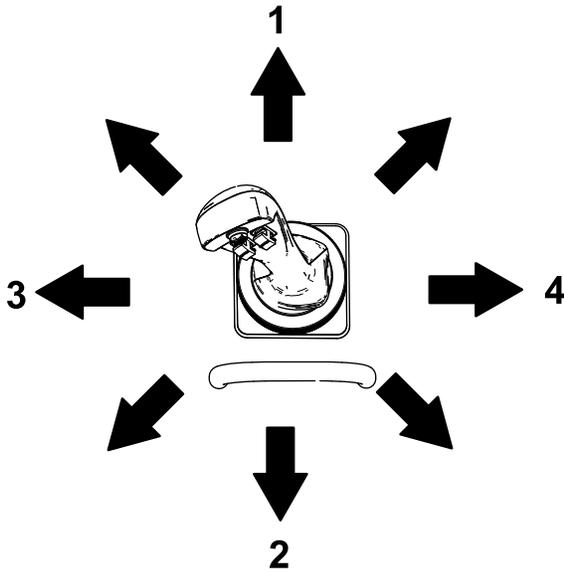

Figure 18
- To tilt the attachment forward, slowly move the lever to the right (Figure 18).
- To tilt the attachment rearward, slowly move the lever to the left (Figure 18).
- To lower the loader arms, slowly move the lever forward (Figure 18).
- To raise the loader arms, slowly move the lever rearward (Figure 18).